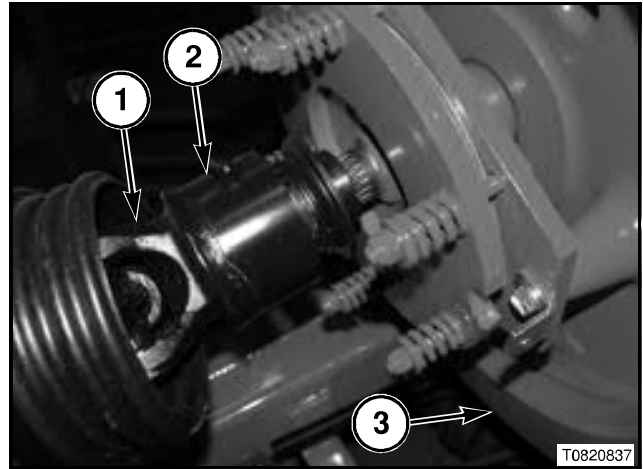

FIG. 4
FIG. 4: The baler is driven by the tractor PTO system. The baler requires a standard 540 rev/min tractor PTO. The baler uses a four U-joint drive shaft between the tractor and the baler. The tractor power goes from the rear U-joint (1) of the drive shaft to the overrunning clutch (2).